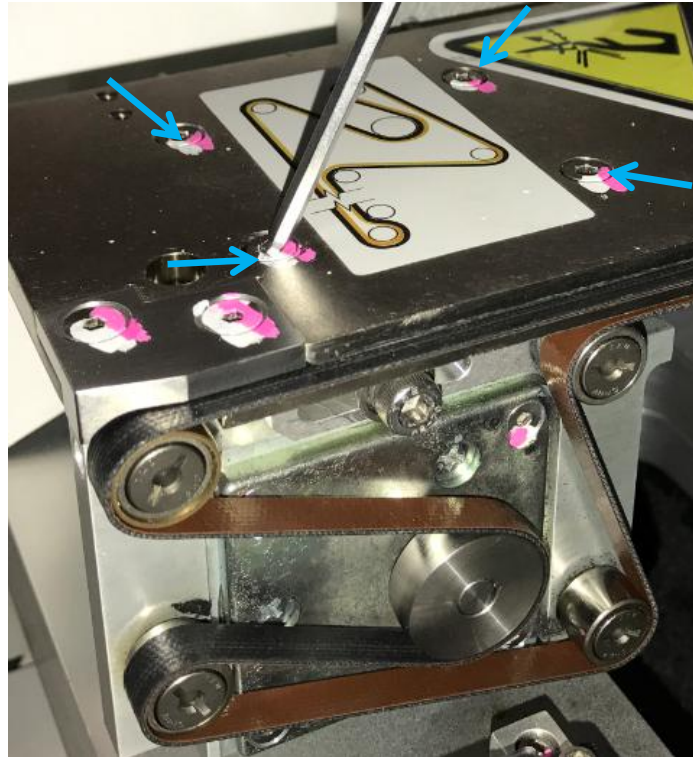

Figure 15 Fix Rail Mount Pulley Assembly
- a) Loosen 4 x Screws at Mount Pulley assembly as below Figure 15